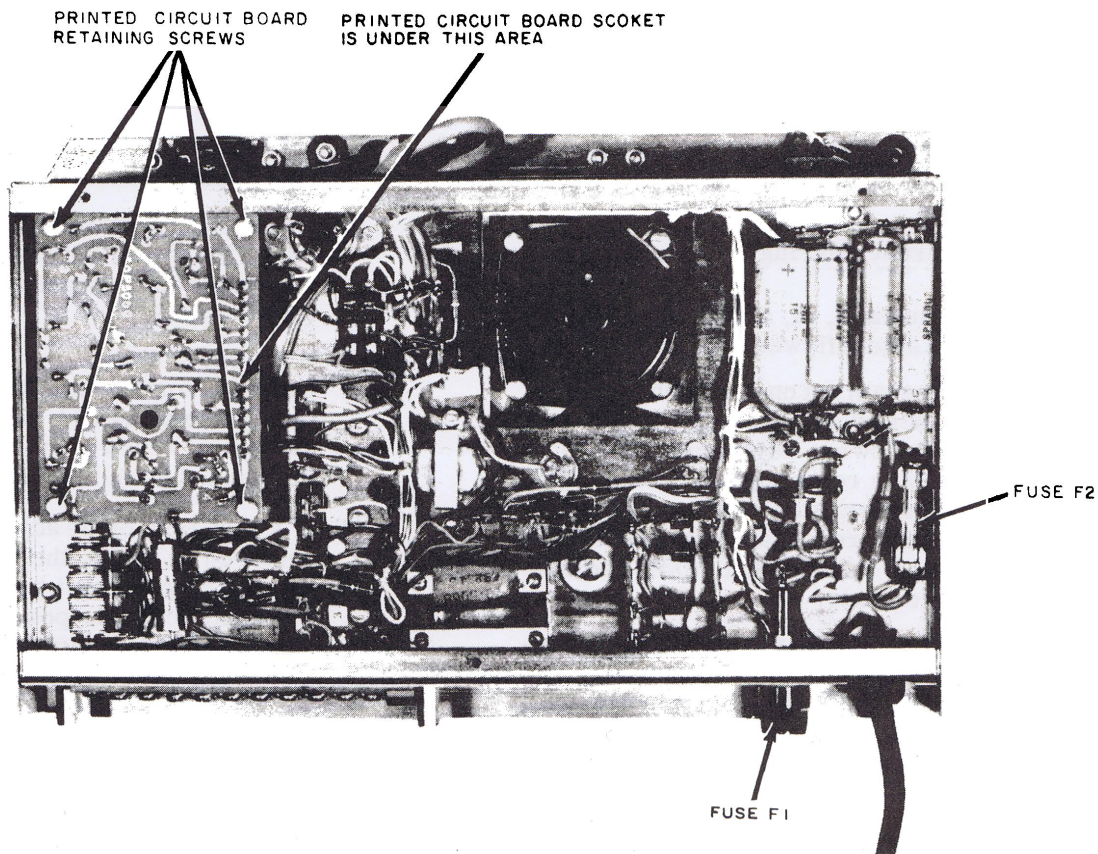

Figure 6. Bottom of Amplifier Housing.
- 2.06 To remove the printed circuit board from the amplifier chassis turn the chassis upside-down and remove the four printed circuit board retaining screws (refer to figure 6). Pull up on the printed circuit board in the area of the socket to disconnect the interface connector.